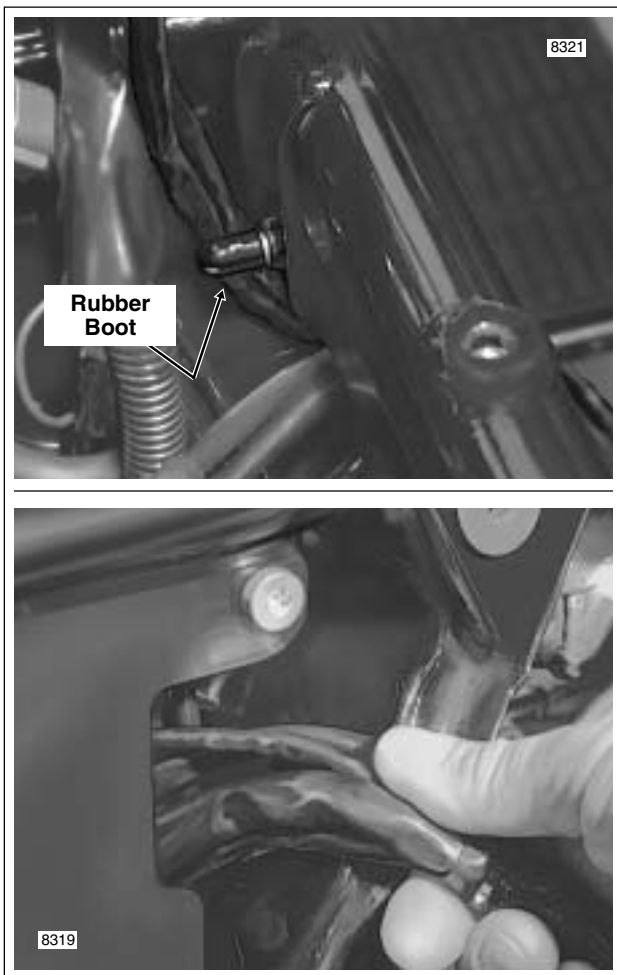

Figure 8-188. Remove EFI Harness From Vehicle
Damage to wires can result in electrical problems. Be sure that rubber boot is present on threaded end of battery box TORX screw. Replace rubber boot if absent or damaged. See upper frame of Figure 8-188.
20. Pull connectors and conduit out through opening at side of battery box to remove harness from vehicle. See lower frame of Figure 8-188.
1. Standing on right side of vehicle, carefully feed sensor connectors and conduit through opening into battery box. See lower frame of Figure 8-188. Pull up on harness and tuck conduit into space in front of the battery box TORX screw.